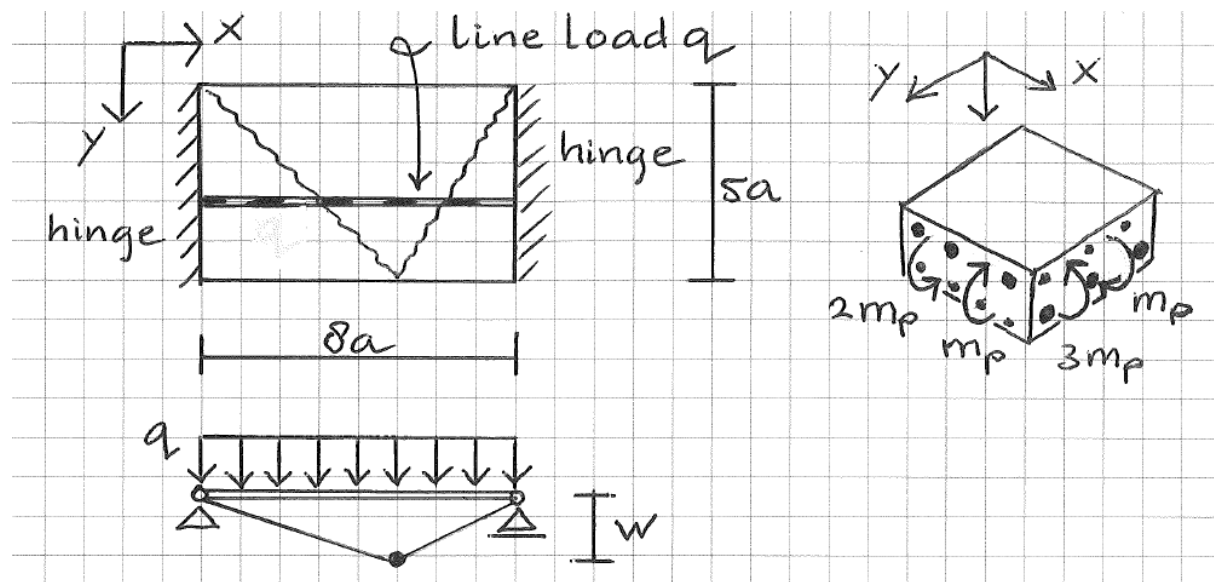

Figure 3. Plate dimensions and reinforcement
A reinforced concrete plate has two simply supported edges (Fig. 3). It carries an evenly distributed line load q [kN/m]. There is no other load on the plate. The plate is homogeneous and orthotropic.
- b** Consider the yield line pattern of Figure 3. Determine an upper bound for q expressed in m_p and a (1.5 point).